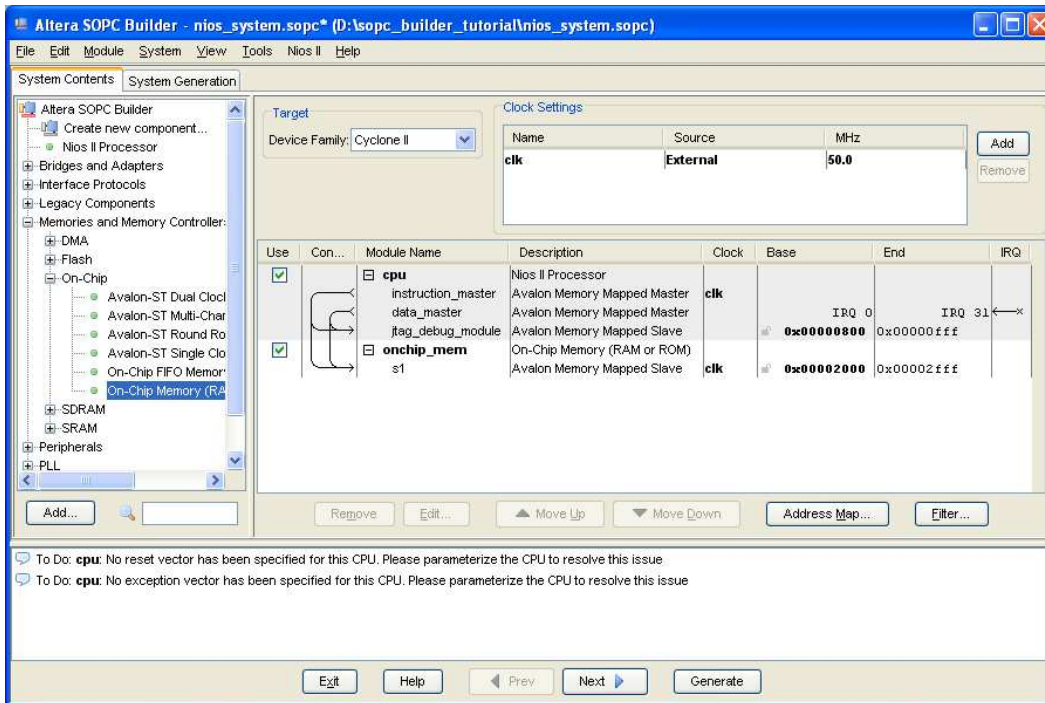

Figure 9. The on-chip memory is included.
- Click Finish, which returns to the System Contents tab as indicated in Figure 9